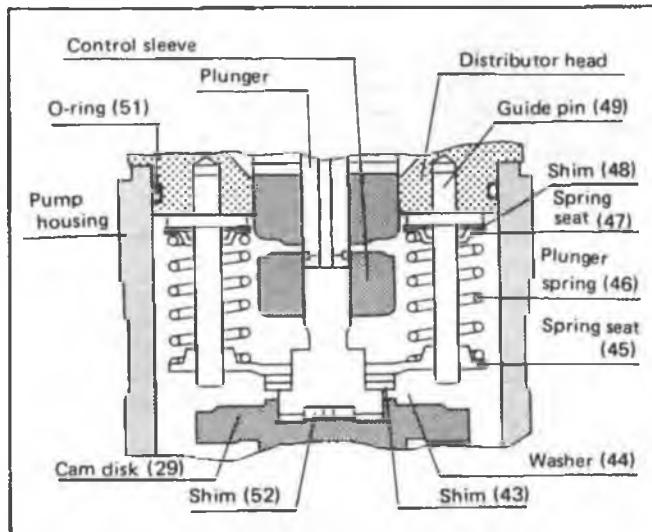

Fig. 4-36 Plunger Shims
5. Use a wide blade screw driver to remove the 4 head screws (60).
6. Remove the distributor head (50/1) from the pump housing together with the "O" ring (51). During this operation, be careful not to lose the two springs (106), guide pin (49), shim (48) or spring seat (47).
- NOTICE:** Do not remove the plunger (50/2) unless it has been disturbed. If it is disturbed, remove it with the control sleeve (50/3), plunger spring (46), spring seat (45), shim (43) and washer (44) (Fig. 4-36).